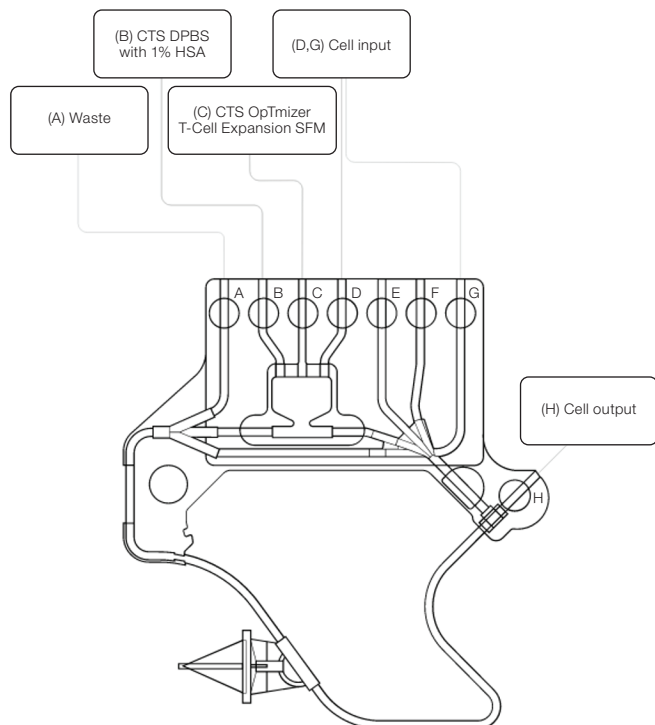

Figure 1. CTS Rotea Single-Use Kit configuration for buffer exchange.
- Use a sterile tubing welder to attach input and output bags/vessels to tubes A, B, C, D, G, and H of the CTS Rotea Single-Use Kit (Figure 1).